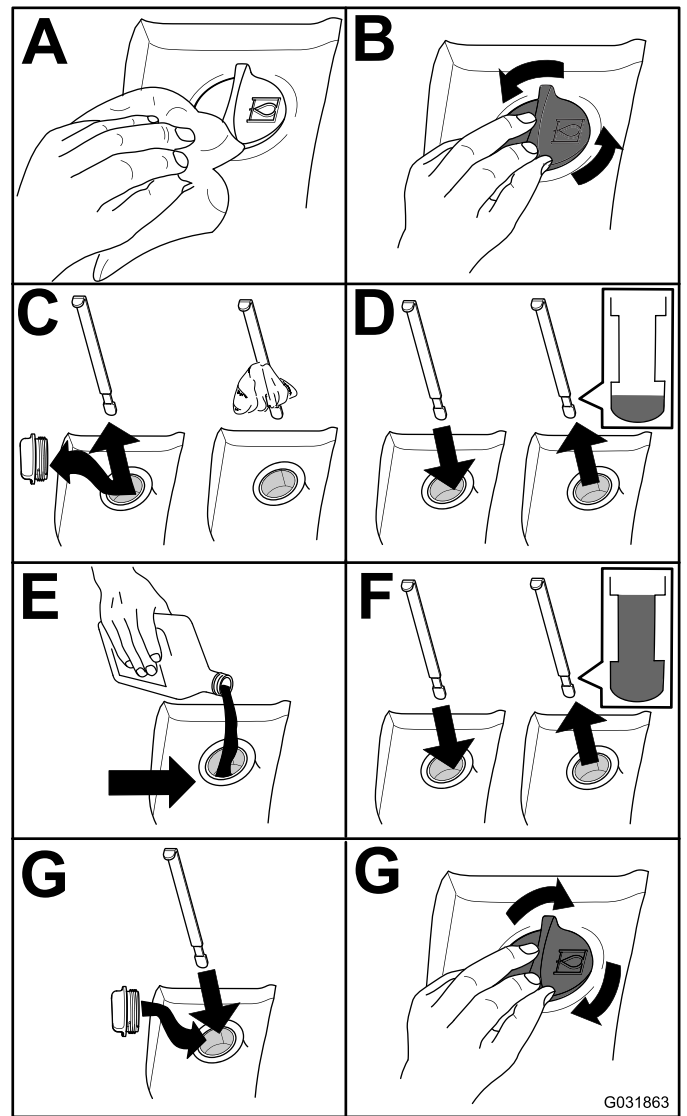

Figure 117
2. Check the hydraulic-fluid level (Figure 117).